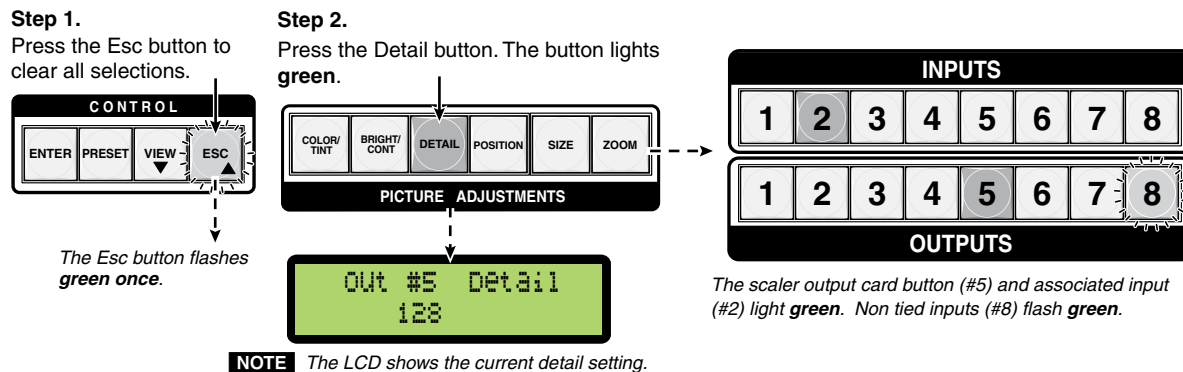

Figure 3-35 — Steps 1 and 2 for adjusting detail
- Press and release the detail adjustment button. The output buttons for scaler /scan converter cards (outputs 3 through 8) and any associated (tied) input buttons light solid green. Untied outputs flash green. The LCD panel shows the current detail setting (see figure 3-35) for that lit output.